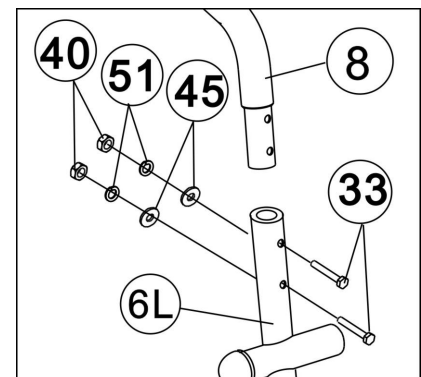

Figure 9
Insert the Left handlebar (8) to the Left Handlebar support (6L) with four sets of M8x40 Bolts (33), Φ 8 Arc washers (45), Φ 8 Spring washers (45), spring (51), and M8 Cap nuts (40). Do the above same steps to assemble the Right handlebar (11) to the right Handlebar support (6R). (Refer figure 9)